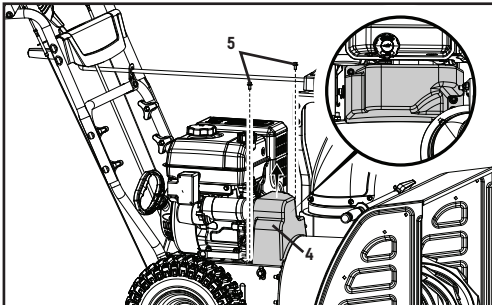

Figure 38
1. Remove the plastic belt cover (4) on the front of the engine by removing two M6 × 16 bolts (5) (Fig. 38).